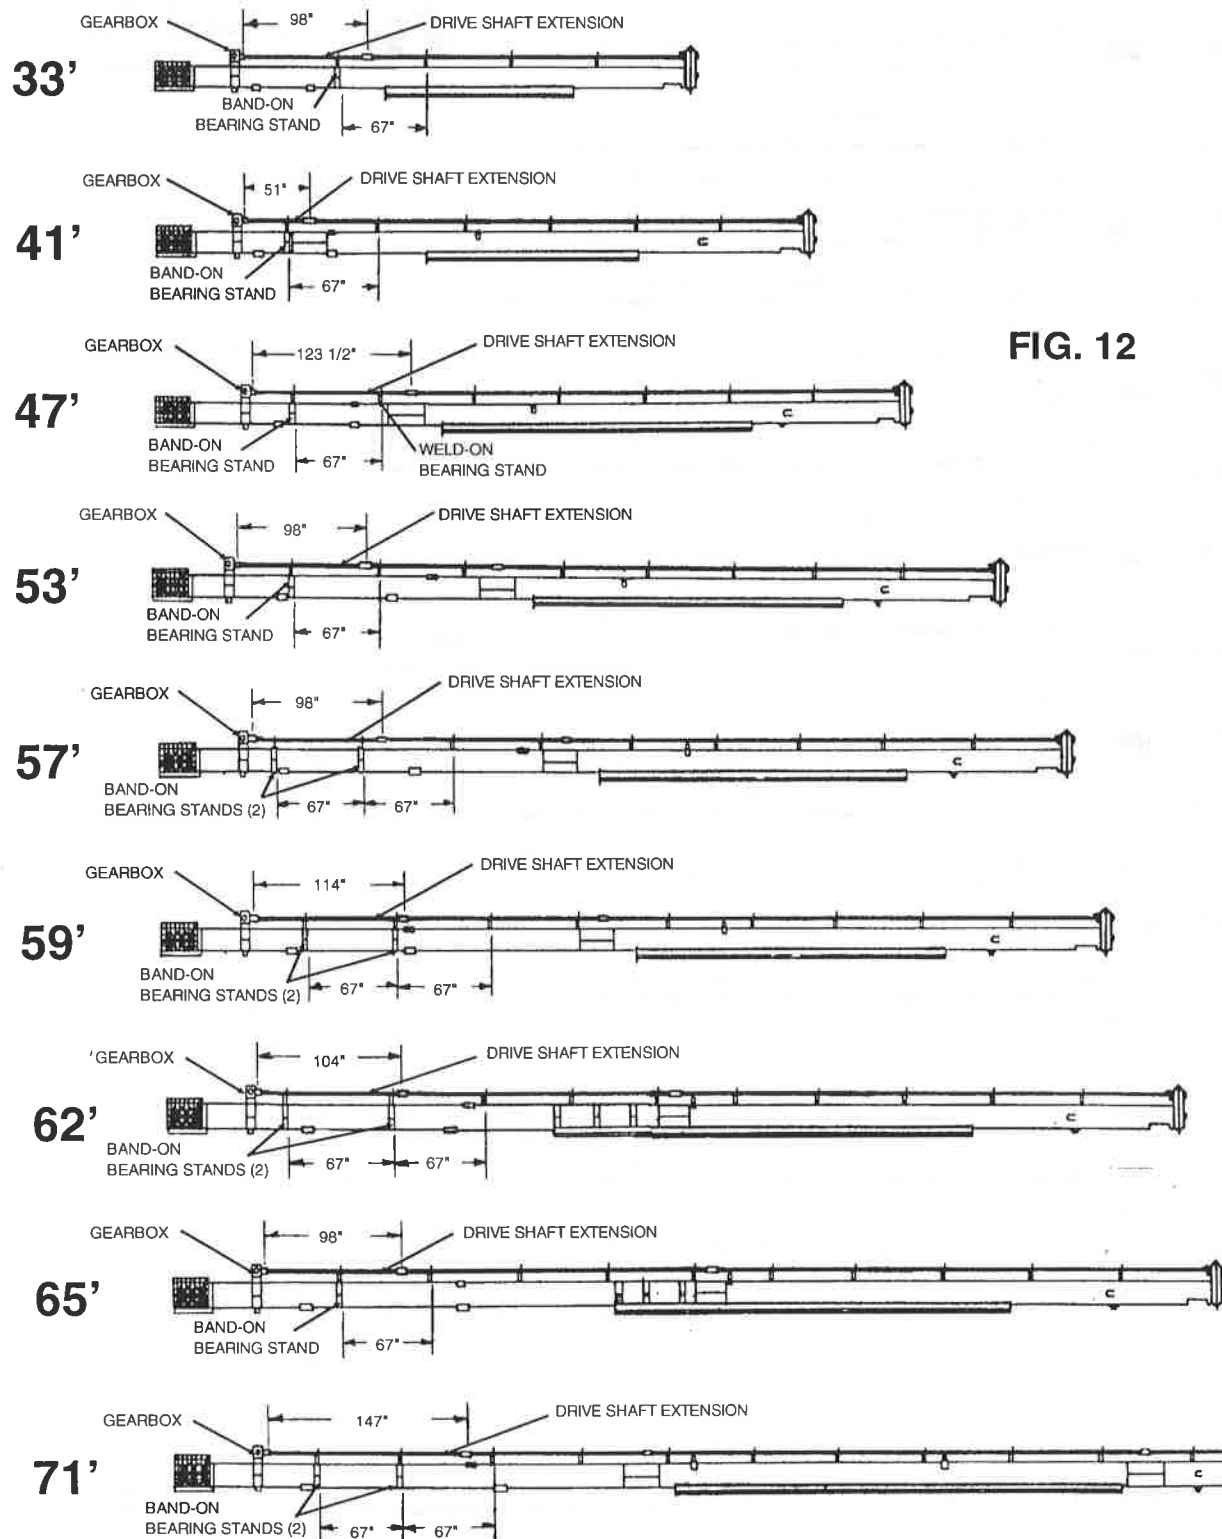

FIG. 12
Step 2. Slide bearing stands onto extension drive shaft. Attach extension drive shaft to auger drive shaft using a coupler and two 1/4" x 1 1/2" square keys. See Fig. 12 on page 21 for correct band-on bearing stand spacing. Fasten band-on bearing stand in place, using half bands and two 5/16" x 1 1/2" (grade 5) hex head capscrews and nuts. Tighten two bearing setscrews to lock bearing to extension drive shaft.